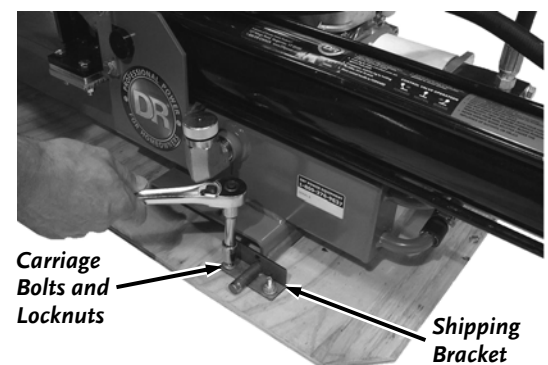

Figure 10
5. Remove the Two Carriage Bolts and Locknuts that secure the Shipping Bracket to the Plywood Base (1/2" wrenches) and remove the Shipping Bracket (**Figure 10**).